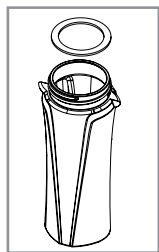

Figure 1
- Place sealing ring over cup opening. (See Figure 1)